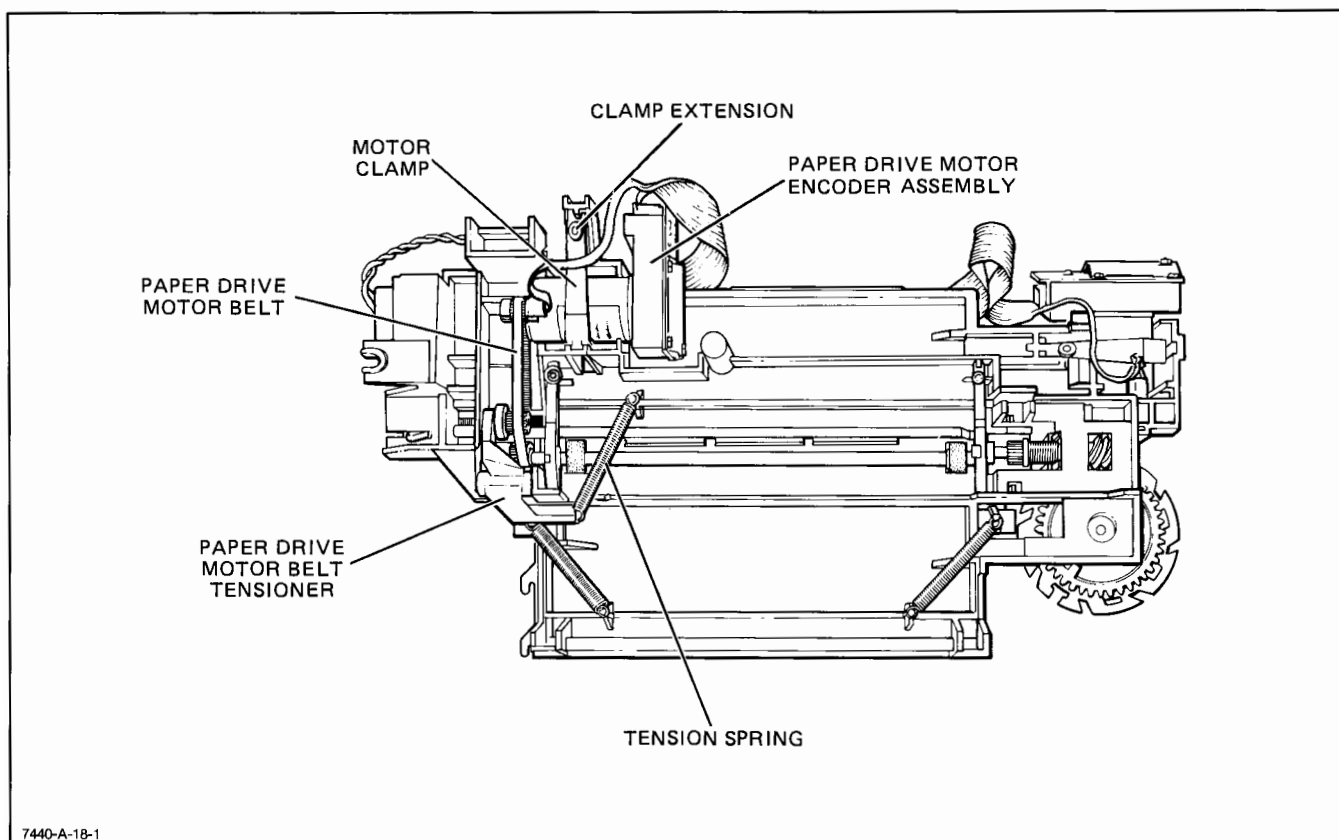

Figure 6-9. Paper Drive Motor/Encoder Assembly Removal
- d. Turn the chassis assembly bottom side up with the platen toward your body. The paper drive motor/encoder assembly is on the left side of the chassis assembly. See Figure 6-9.